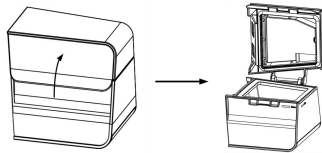
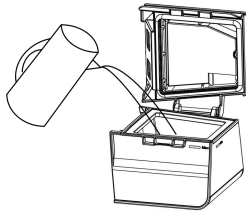

Fig. 14-2
Fig. 14-3
(1) Remove the water chamber, open the cap, as shown in Fig. 14-2, and fill the water chamber with approximately 360 mL of distilled water (recommended), as shown in Fig. 14-3. Make sure that the water does not exceed the maximum water level line.